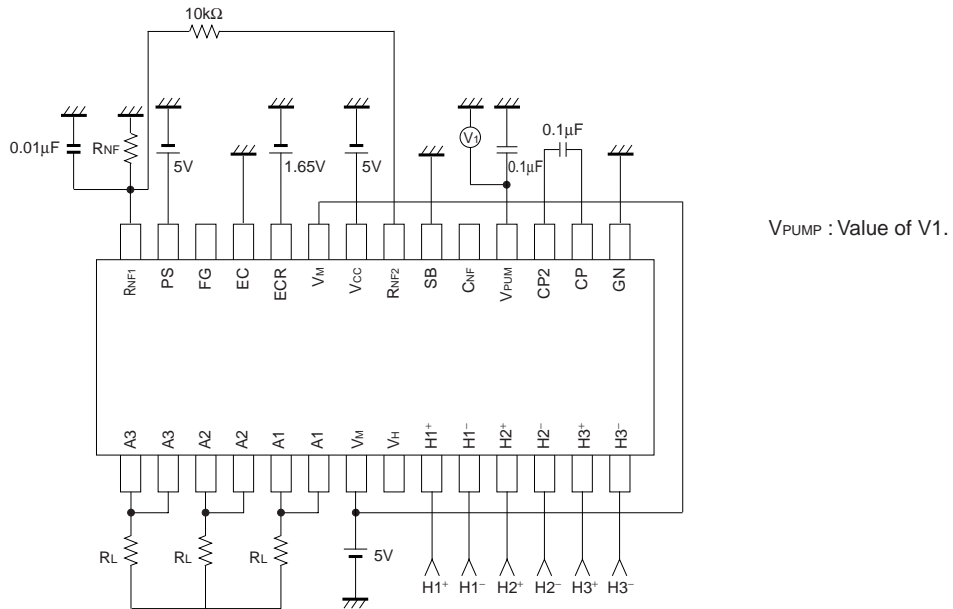

Fig.9
1. Value of resistor (Fig.2~Fig.9)